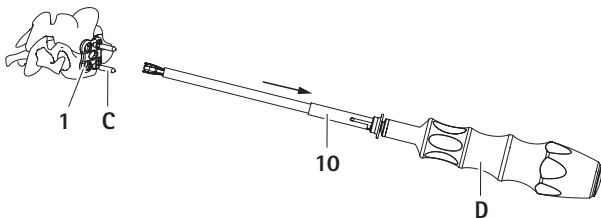

Fig. 7
- ▶ To release the fixation pin **C** from the instrument for fixation pins **D**, pull back outer sleeve **10** fully and remove instrument for fixation pins **D** from the fixation pin **C**, see Fig. 7.